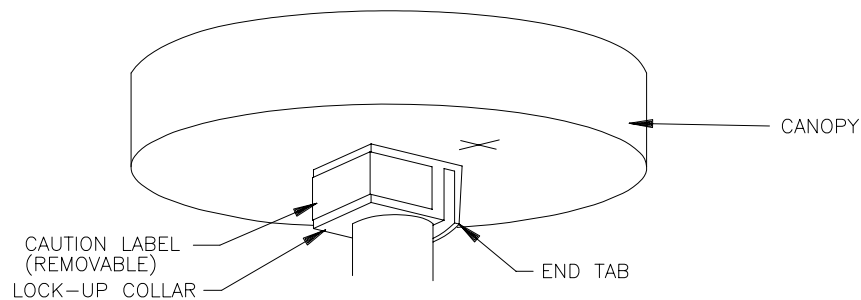

FIGURE 2
- 3.- PRESS END TAB, ON LOCK-UP COLLAR, AND TURN CLOCKWISE TO SECURE MOUNTING HEAD FIRMLY INTO CANOPY. (SEE FIGURE 2)